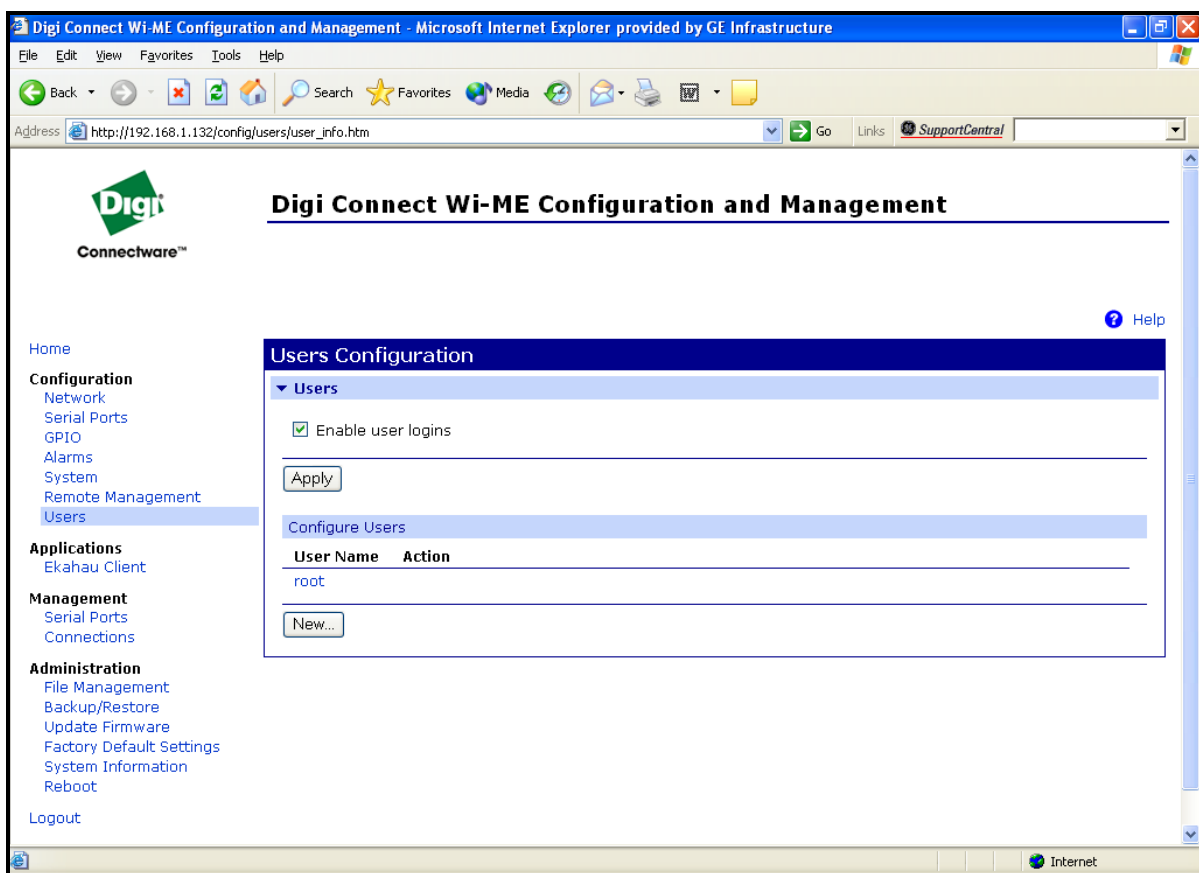

Figure 33: User's Configuration Menu
3. Click on **Login**. Figure 33 below appears.